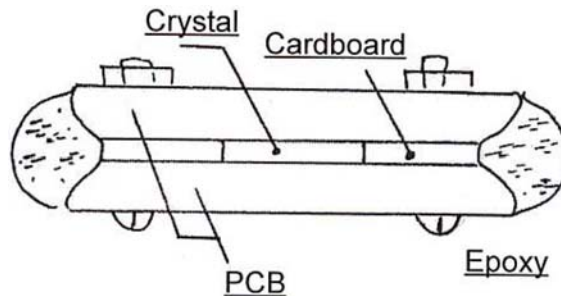

Figure 8 Closed holder
8. Repeat item 6 if the frequency of the quartz is lower the needed one
9. When the needed frequency is got, put the quartz into holder, make little cavity (with help of a small broach file) on the side of the holder, then put epoxy into the cavity. **Figure 8** shows the closed holder.